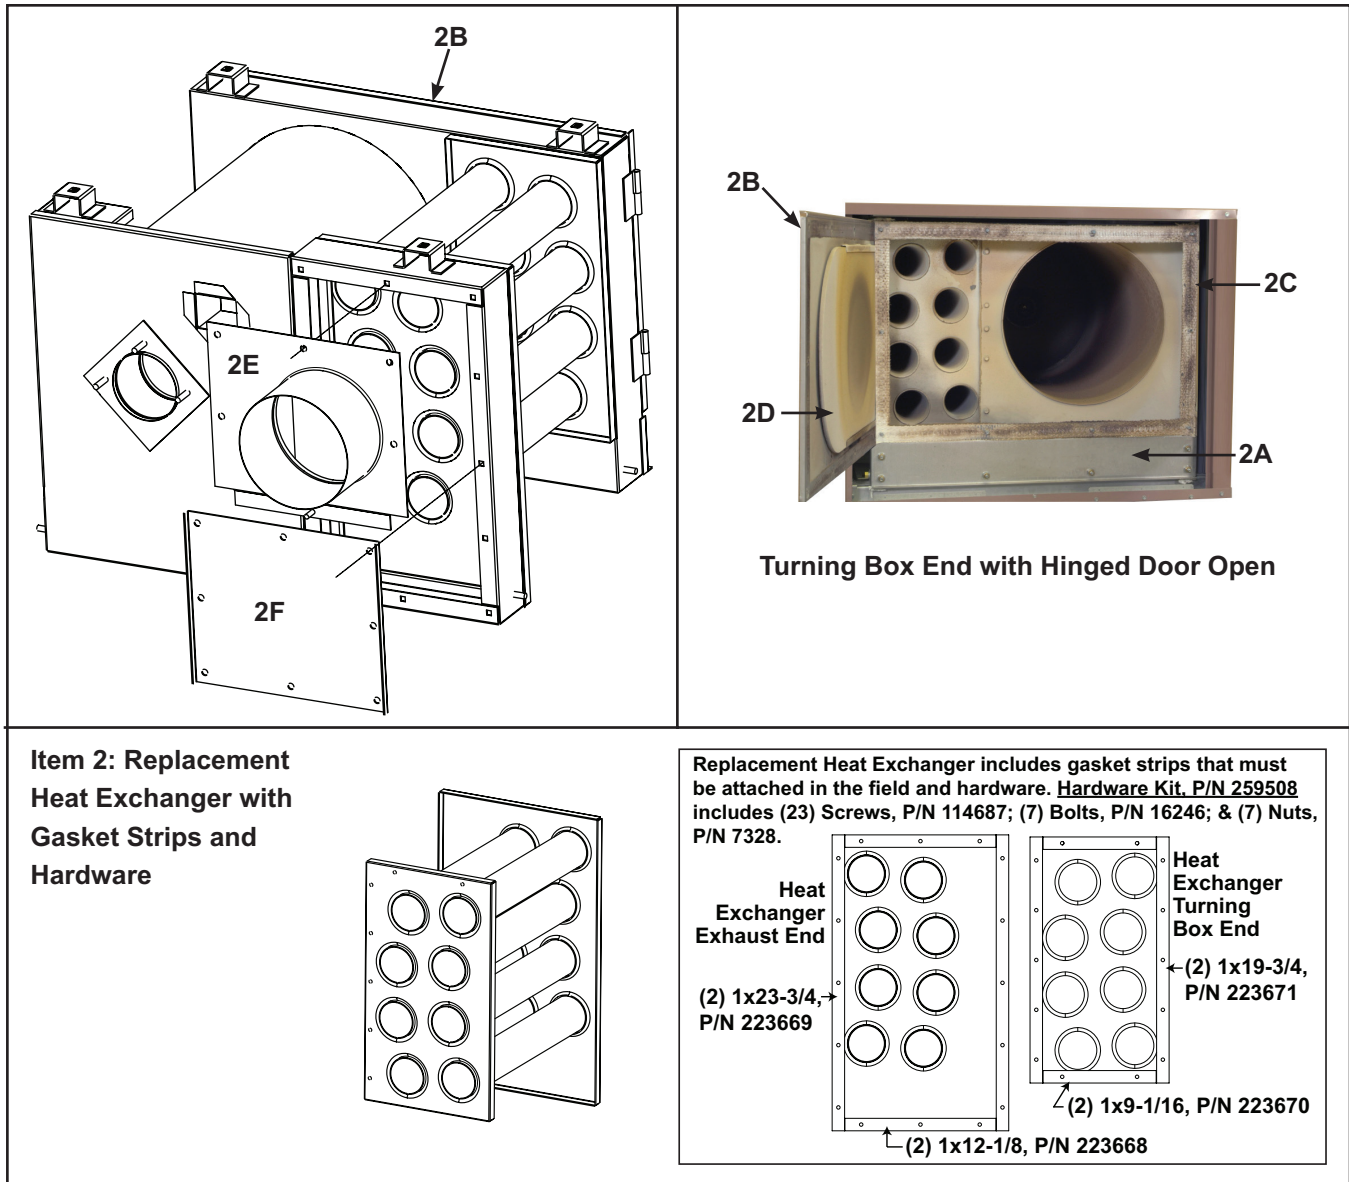

Figure 26. Heat Exchanger/Combustion Chamber and Exhaust Box Assemblies—RA and RAD Models, Unit Sizes 150 and 250 (Refer to Table 17)
- Heat exchanger/combustion chamber assembly and exhaust box components for RA and RAD models—unit sizes 150 and 250—are shown in Figure 26 and listed in Table 17.